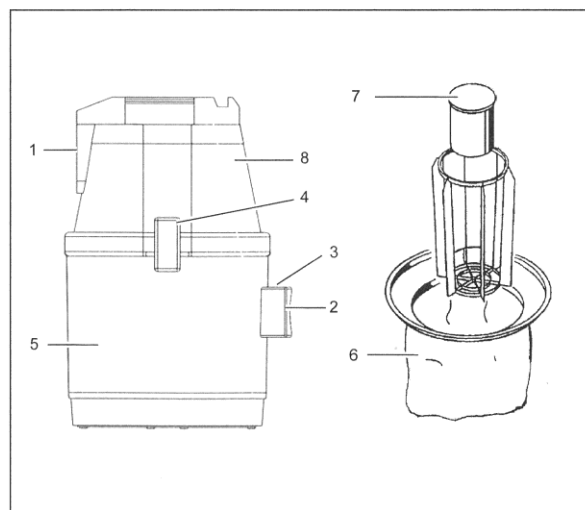

Fig.2
Use the main switch (Fig. 2/1) o turn the vacuum cleaner on and off.
Plug suction hose in suction outlet (Fig. 2/2) (snaps-in) (to remove suction hose, depress button (Fig. 2/3) and pull hose)
1. Open the locks (Fig. 2/4) of the suction unit (Fig. 2/2) and take off suction unit.
2. Remove and clean filter (Fig. 2/6).
3. Clean hopper (Fig. 2/5) and wipe dry.
4. Clean floater (Fig. 2/7) (situated in the filter basket).